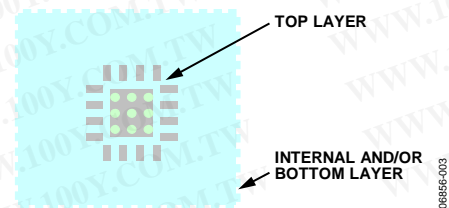

Figure 3. Heat Sink Layout
1. Place nine vias onto the thermal pad of the amplifier. The outer diameter of the vias should be 0.5 mm, and the inner diameter should be 0.33 mm. If internal layers are available in the PCB, allocate an area as large as possible to the ground planes and connect these vias to the ground planes (see Figure 3). If internal layers are available, allocate a specific area as a heat sink; make sure to connect the vias conducting heat to the internal layers.